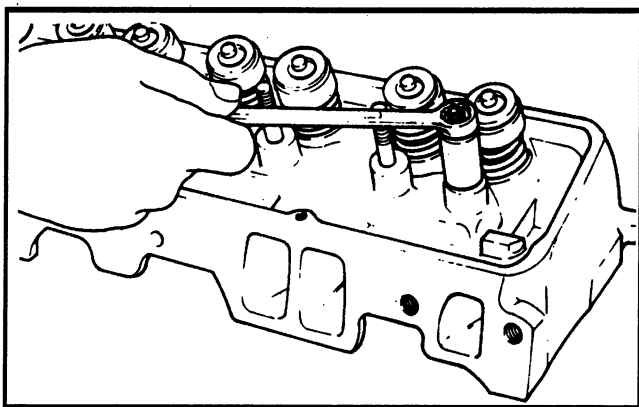

FIGURE 3. REMOVE A STUD FOR A ROCKER ARM
1. Remove the old stud. Install a spacer, flat washer, and nut to the damaged stud. Use a wrench to remove the damaged stud. See FIGURE 3.